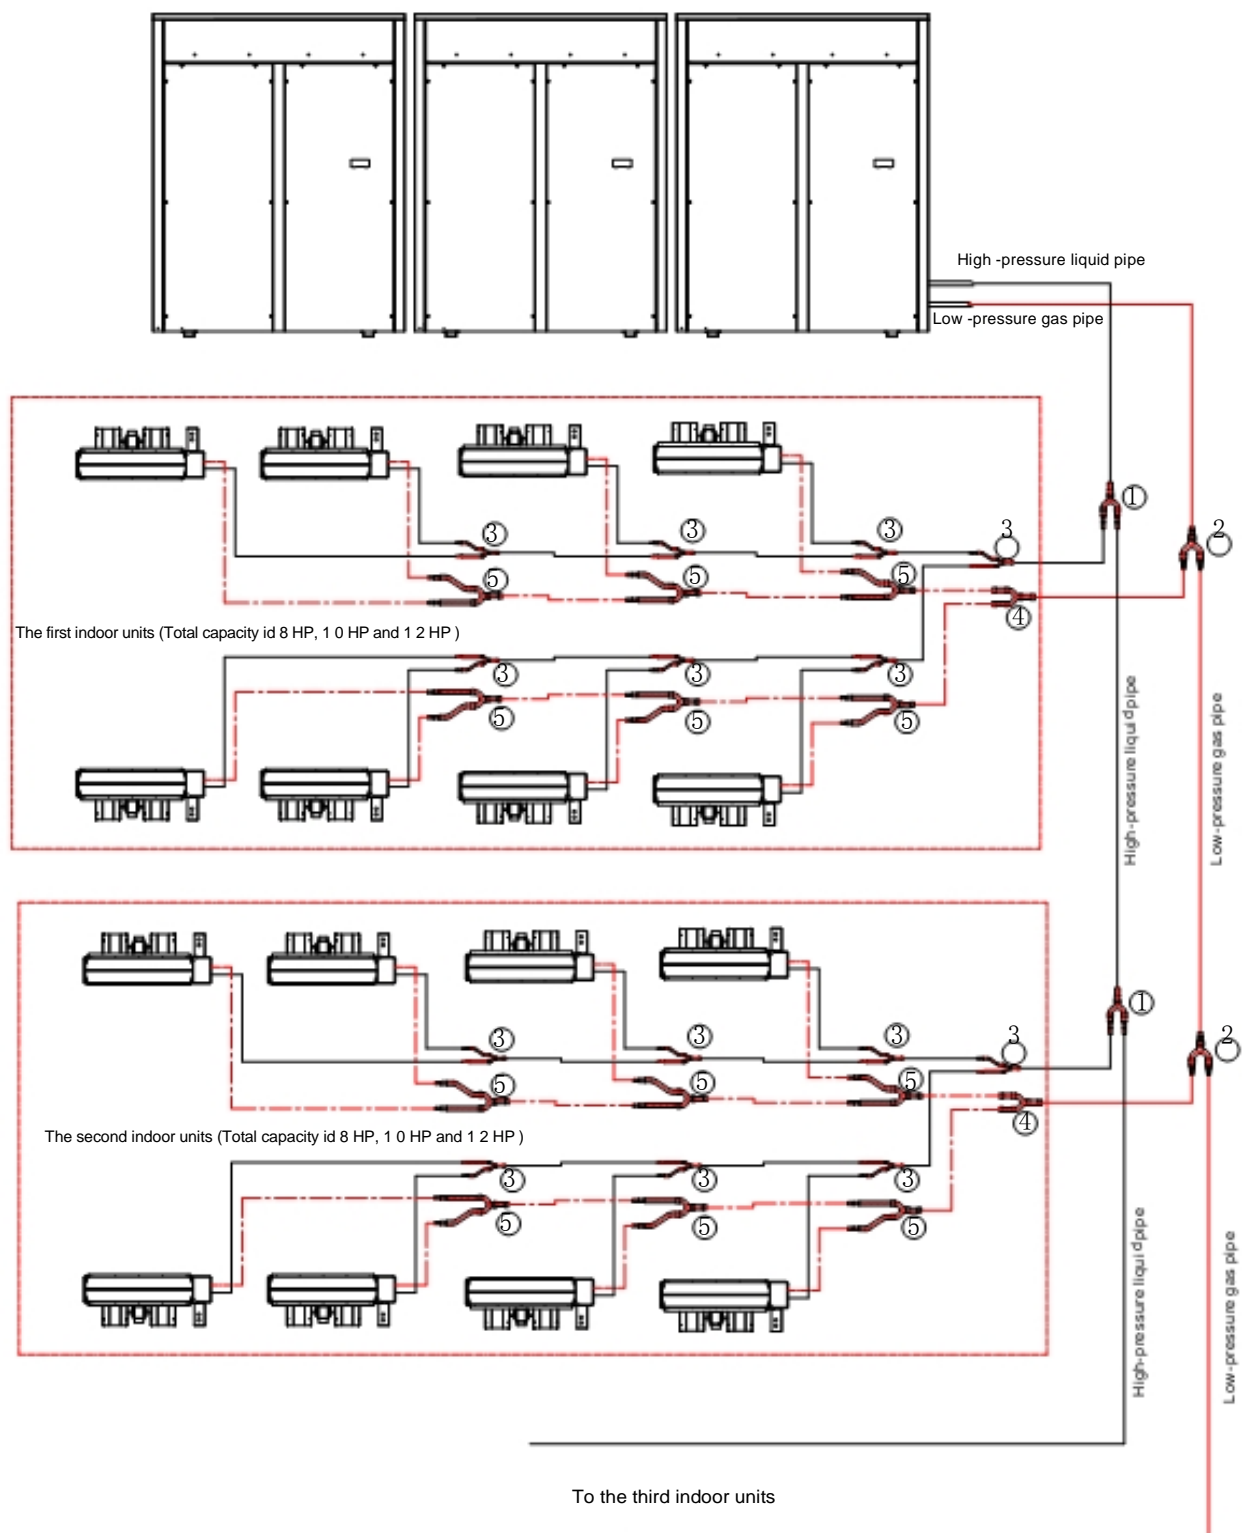

Fig 5 0 : Installation drawing of the indoor tubing
4) The example for different caliber design is referred to Fig 5 1 : Different caliber design for indoor tubing and Table 9 : Spec . Of some tubing .